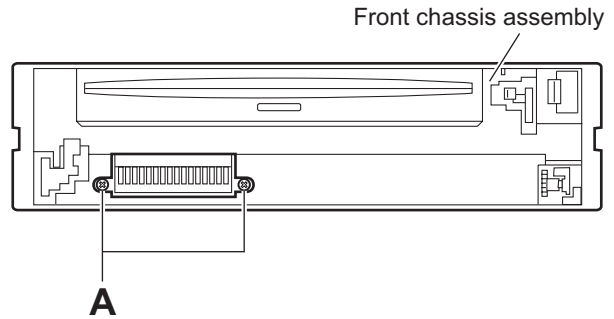

Fig.3
3.1.3 Removing the front chassis assembly (See Figs.3 and 4)
- Remove the two screws **A** on the front side of the main body. (See Fig.3)